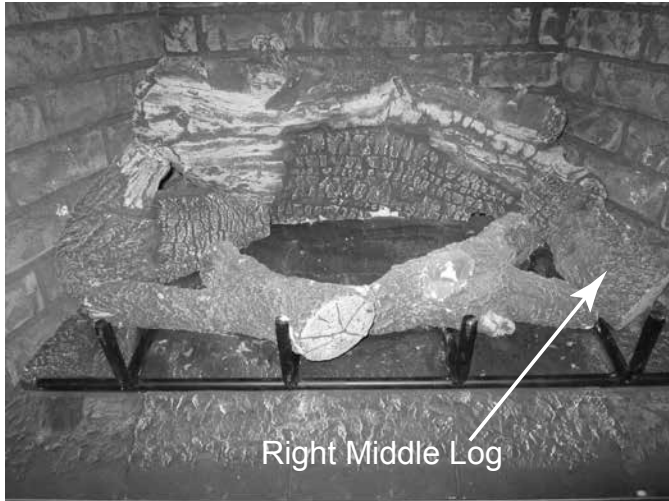

Figure 11.14
- Place right middle log. Notches in log will fit over the locating end of the right front log. See Figure 11.14.